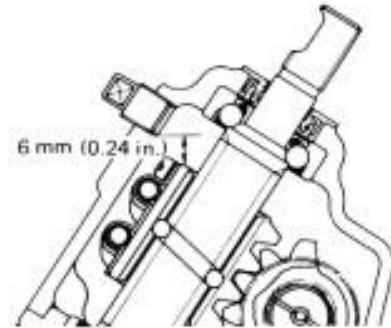

Fig. 18-10
- 1) If any evidence of oil leakage is noted on the gear box upon inspection of the machine brought in for servicing, remove the plug (Fig. 18-10) and check the level of oil inside. The oil surface should be up to about 6 mm (0.24 in.) below plug; if not, add oil. Be sure to use the prescribed gear oil, SAE 90.